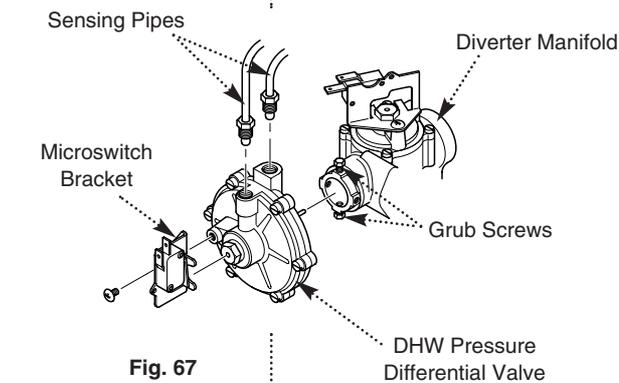

Fig. 67
12.22 Diverter Valve Assembly (Figs. 67 & 68)